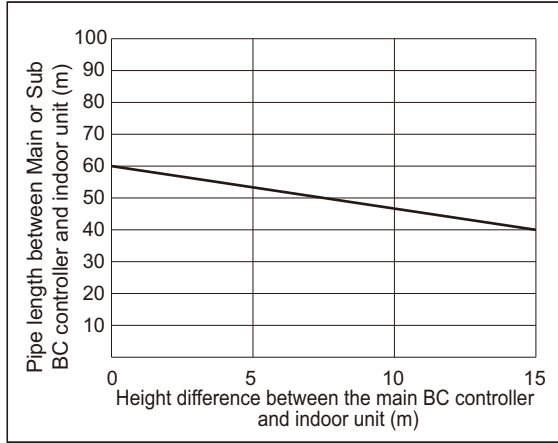

Fig. 2
- \*9. When the piping length or the vertical separation exceeds the limit specified in Fig. 2, connect a sub BC to the system. The restriction for a system with a sub BC connection is shown in Fig. 3. When a given system configuration falls within the shaded area in Fig. 3, increase the size of the high-pressure pipe and the liquid pipe between the main BC and sub BC by one size. When using P/M32, P/M40, P/M50, P/M100, or P/M125 model of indoor units, increase the size of the liquid branch pipe between the sub BC and indoor unit by one size. When using indoor models P/M140 or larger, the restrictions shown in Fig. 2 cannot be exceeded.
\*9. When the piping length or the vertical separation exceeds the limit specified in Fig. 2, connect a sub BC to the system. The restriction for a system with a sub BC connection is shown in Fig. 3. When a given system configuration falls within the shaded area in Fig. 3, increase the size of the high-pressure pipe and the liquid pipe between the main BC and sub BC by one size. When using P/M32, P/M40, P/M50, P/M100, or P/M125 model of indoor units, increase the size of the liquid branch pipe between the sub BC and indoor unit by one size. When using indoor models P/M140 or larger, the restrictions shown in Fig. 2 cannot be exceeded.